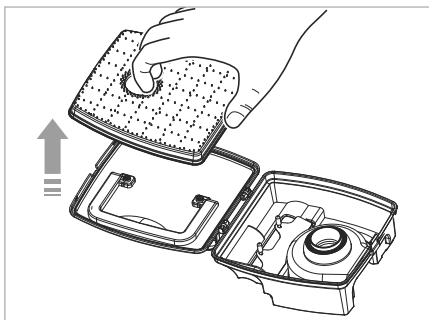

Fig. 10
- 3) Take the EPA filter ⑨ off the lid of the dust container ⑭. (See Fig. 10).